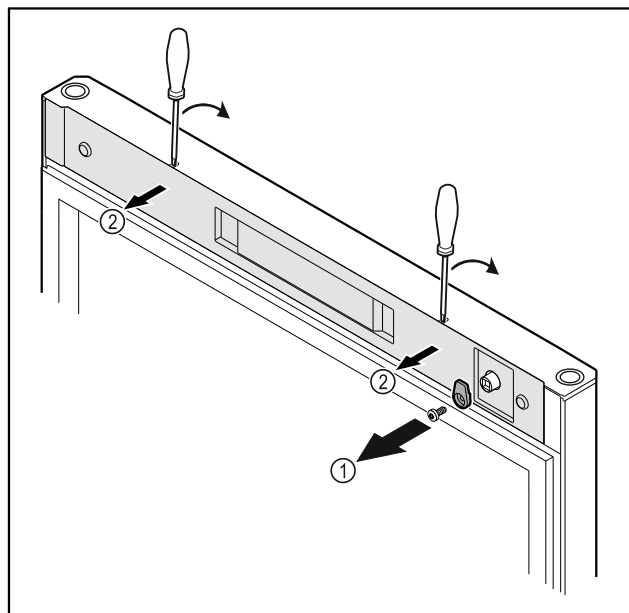

Fig. 16
- Unscrew the door latch Fig. 16 (1).
- Unlatch the cover Fig. 16 (2) with a small screwdriver and remove it.